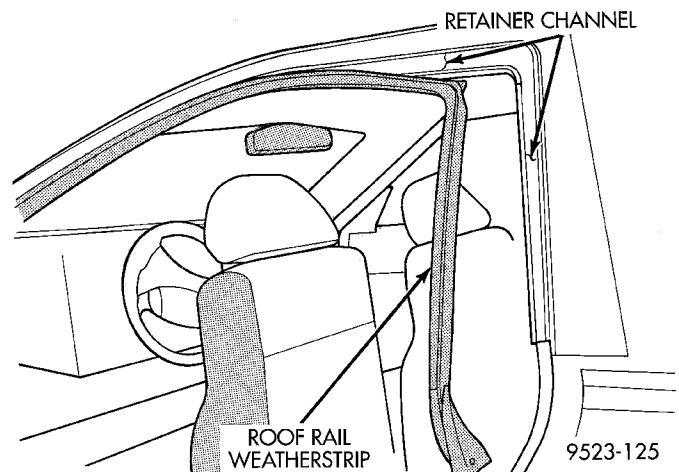

Fig. 39 Roof Rail Weatherstrip
- (1) Using a fork tool C-4829, Disengage push-in fasteners holding bottom of weatherstrip to B-pillar.
- (2) Disengage push-in fasteners holding bottom of weatherstrip to A-pillar (Fig. 39).